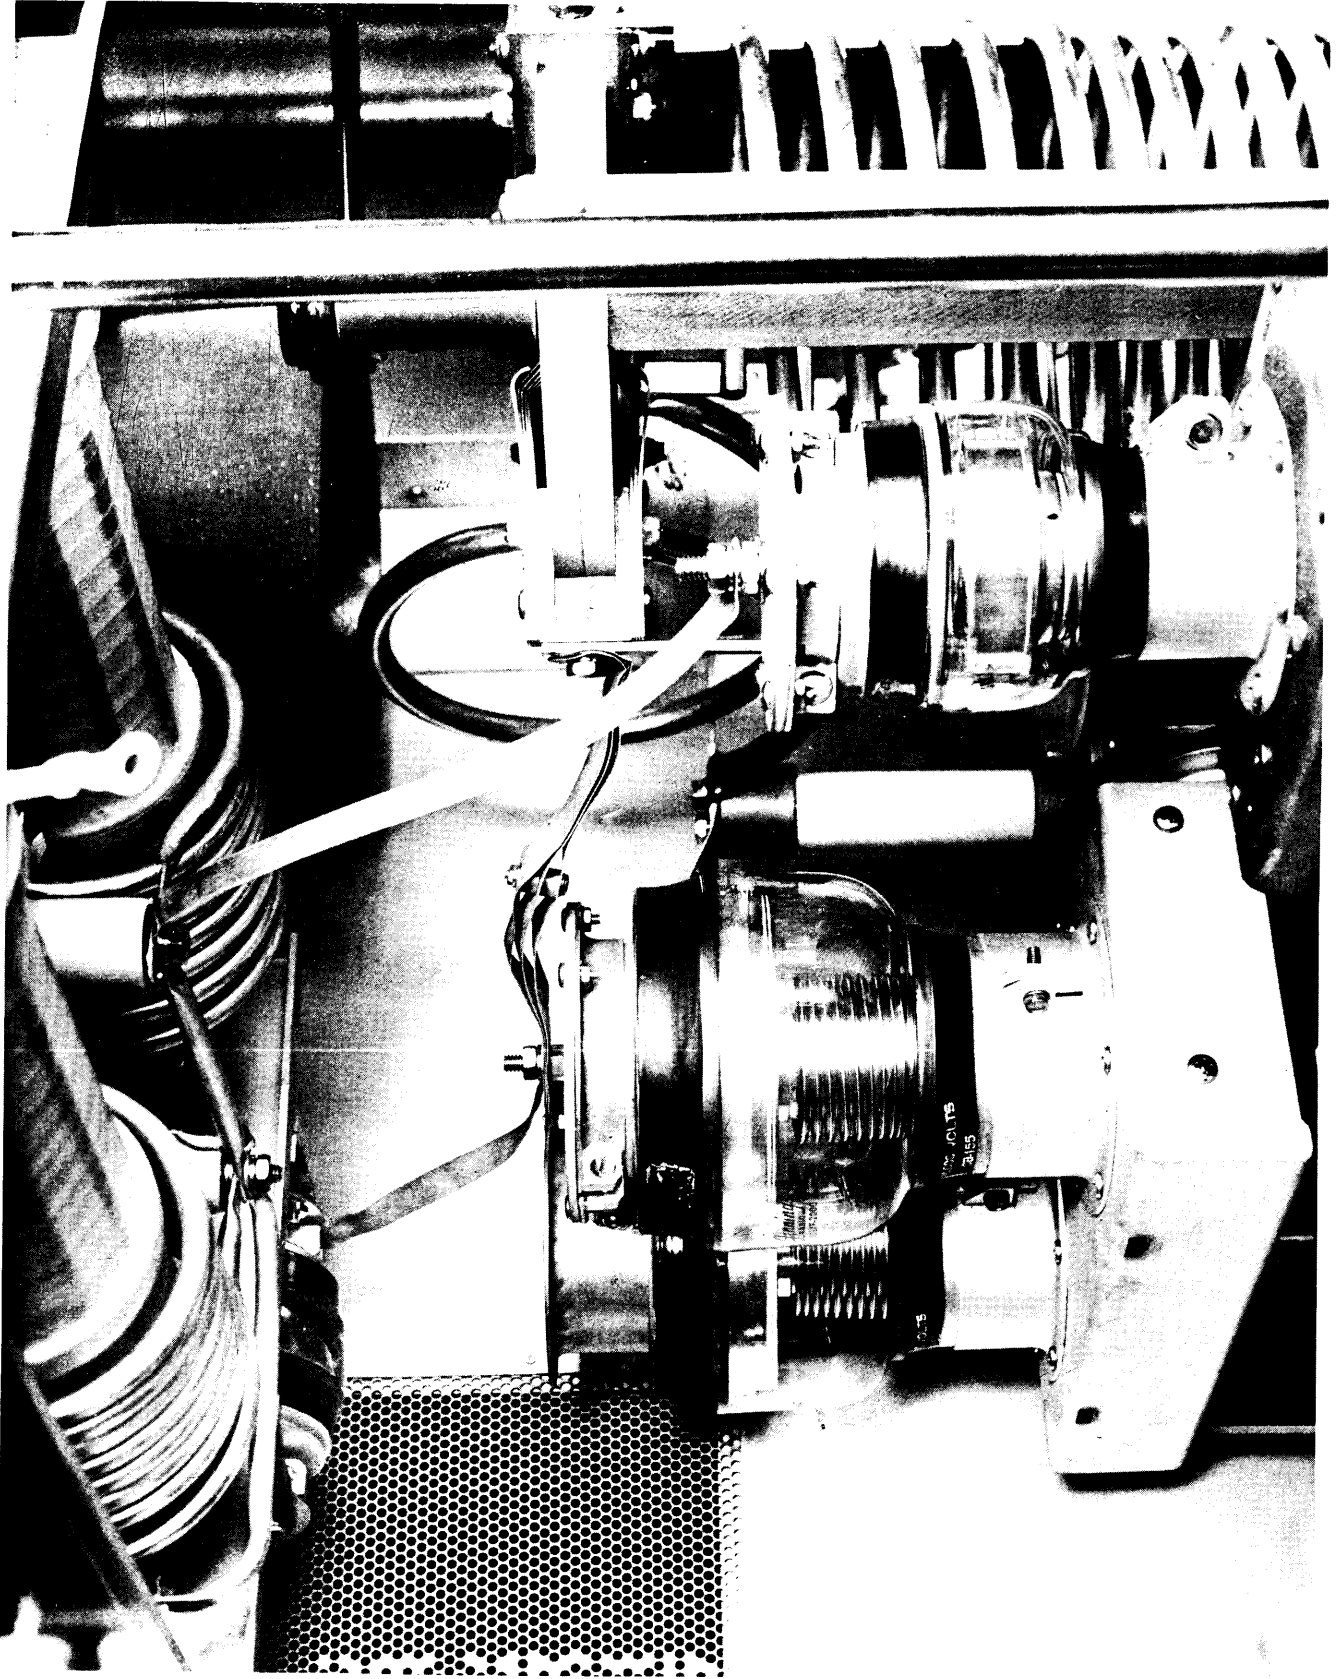
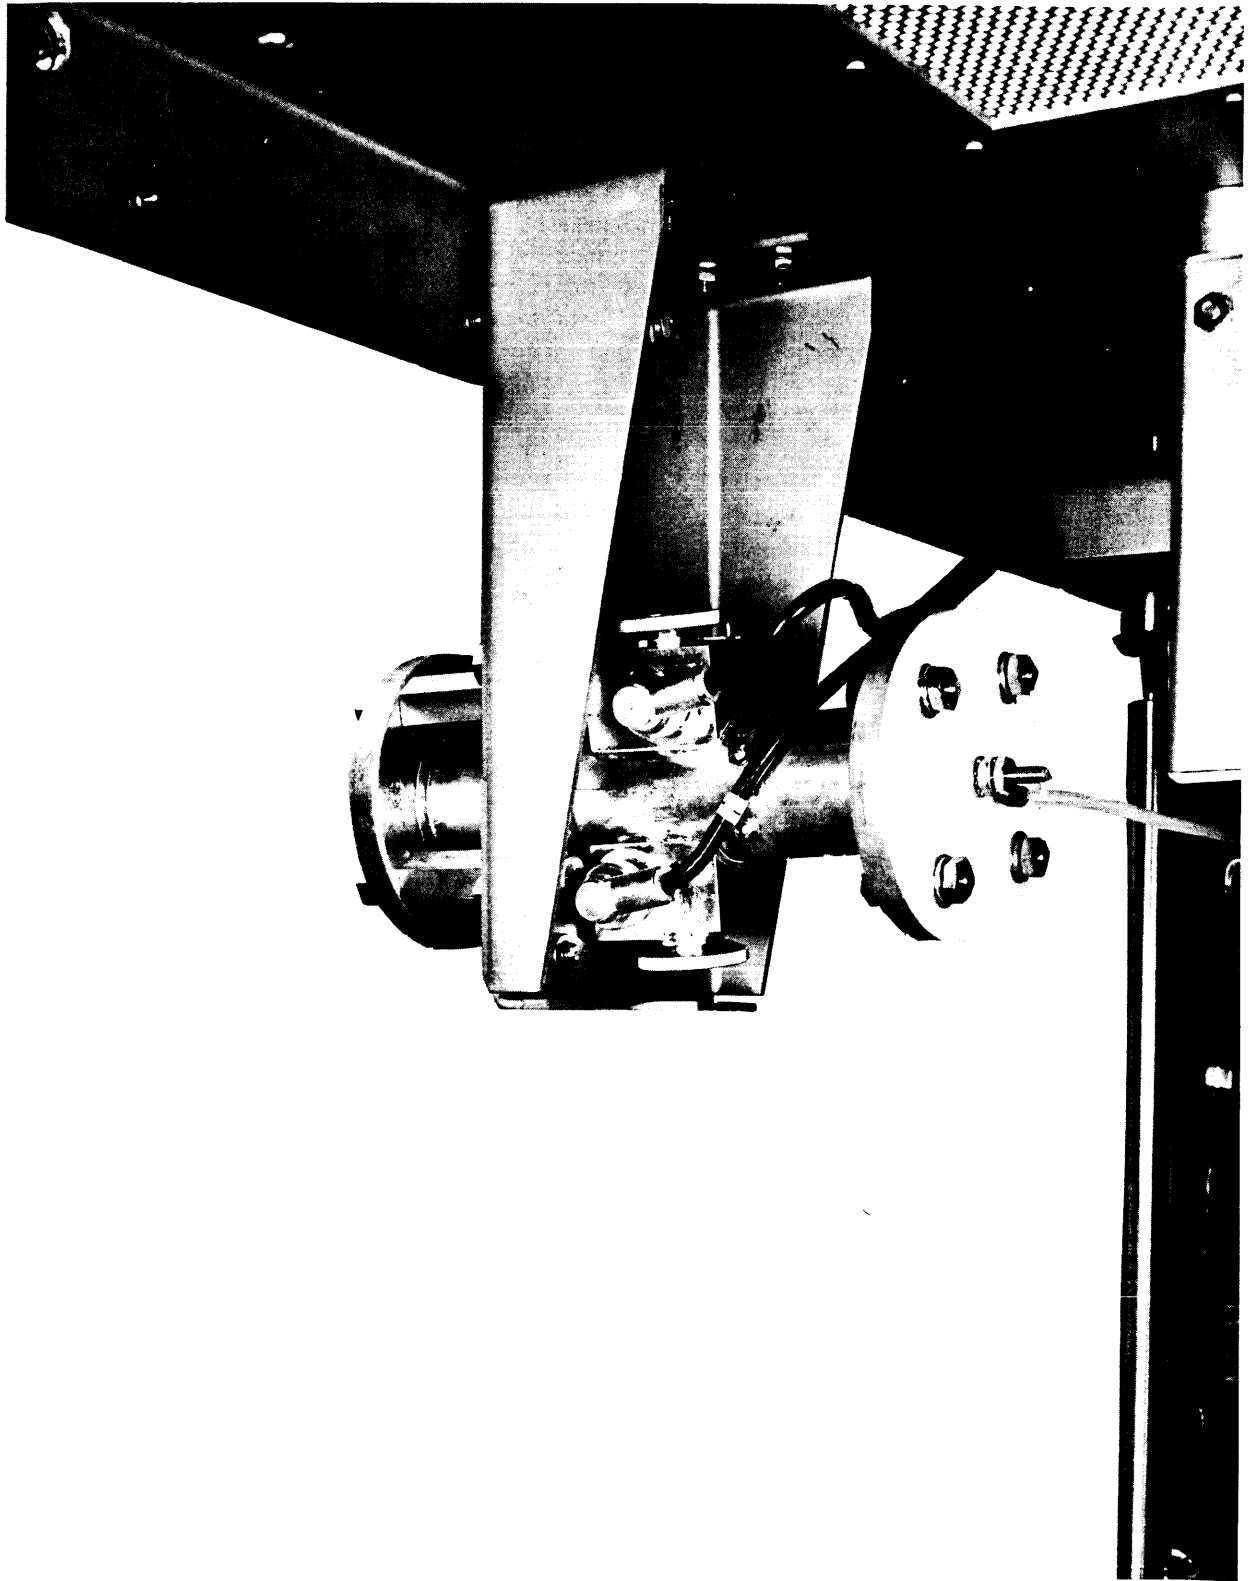

Figure 2-9. Upper Compartment of the Second Frame, Side View
Figure 2-10. Antenna Coupler, Rear View
c. Install capacitors C928 (PA tune), C927 (PA load), and C916 (output balance), figure 2-9, in their respective flangeclamp mountings. Tighten all retaining hardware.
- (1) Flange clamp with metal strap, coming from stand-off in front of V900, to the top of capacitor C927.
- (2) Metal straps, coming from the band switch and capacitor C911, to the top center threaded stud on capacitor C928.
- (3) Metal strap, coming from the output load (coil above C916), to the top center threaded stud on capacitor C916.
a. Using hardware from crate 1 (bag-antenna coupler mounting hardware kit), position and mount, figure 2-10, the antenna coupler, (contained in crate 1) in the inside (toward the upper rear) of the second frame.